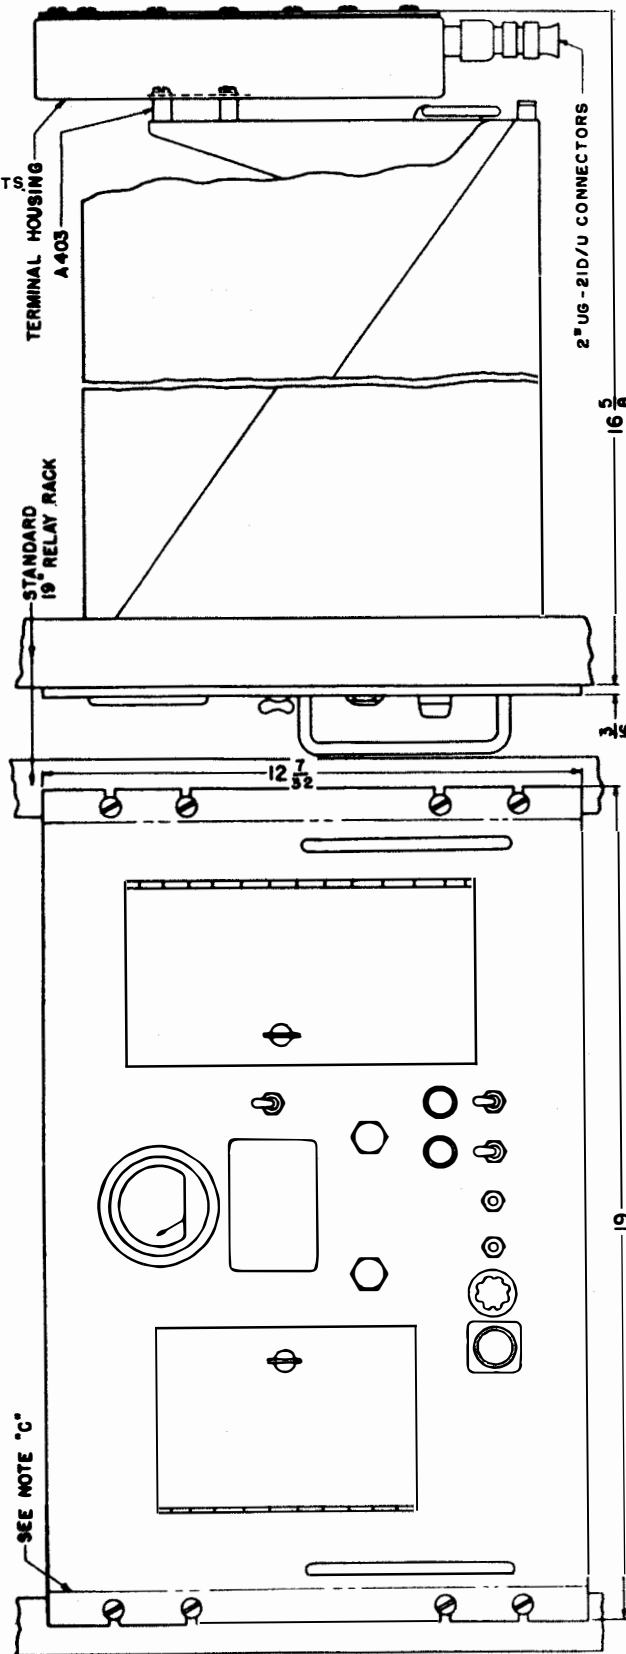

Figure 3-7. Radio Transmitter T-336C/URT-7, Installation for Relay-Rack Mounting
(2) **RACK MOUNTING.**—For mounting the equipment in a 19-inch relay rack, refer to figure 3-7; the complete procedure is outlined in the notes thereon. Note that it is necessary to remove the six screws securing the two vertical strips to the side edges of the face of the front panel. This will make available the eight slots required to rack-mount the unit. When mounted in a relay rack, the terminal box must be attached to the back of the main chassis, using the four tapped studs (A403), which are packed in the cable carton.